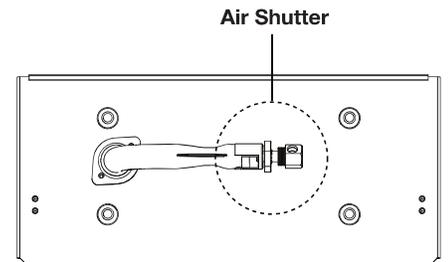

FIG. 3: Under Side View of Burner
5. Prior to reinstalling the burner assembly, ensure to adjust the air shutter (**Fig. 3**). Refer to the venturi adjustment chart on the following page for details.